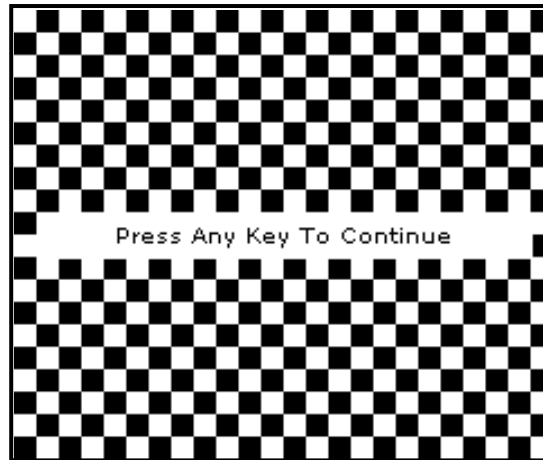

Figure 62: Functioning Test Screen
4. Use the arrow keys to scroll to Test Screen and press **[ENTER]**. A screen with a checkerboard pattern appears as shown in *Figure 62*.